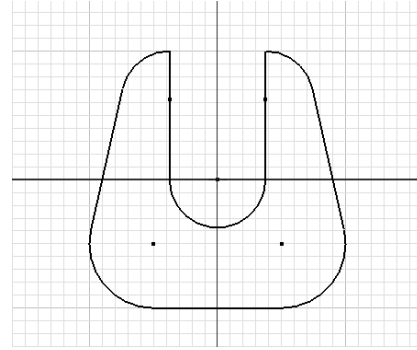

Figure 3-56 The sketch after applying all constraints
11. Select the center point of arc 6; the entire sketch moves to make the sketched point coincident with the center point of the arc. The sketch after applying all constraints is shown in Figure 3-56.